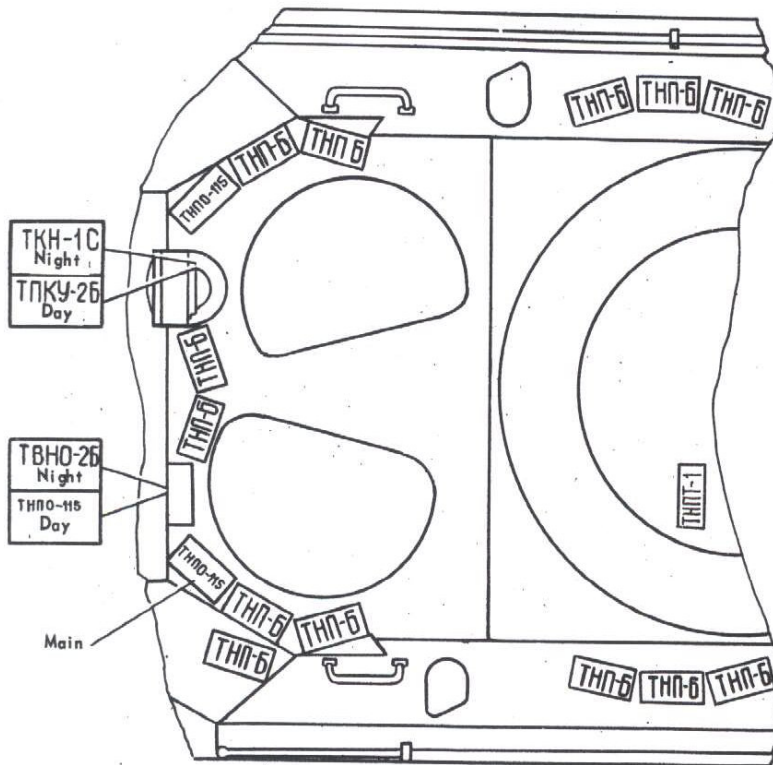
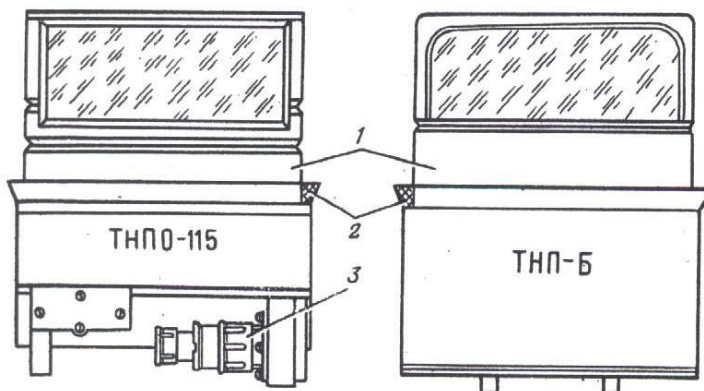
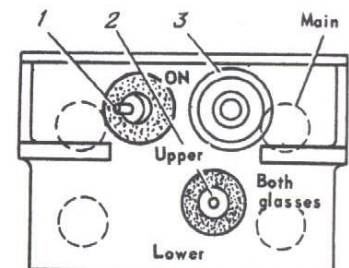
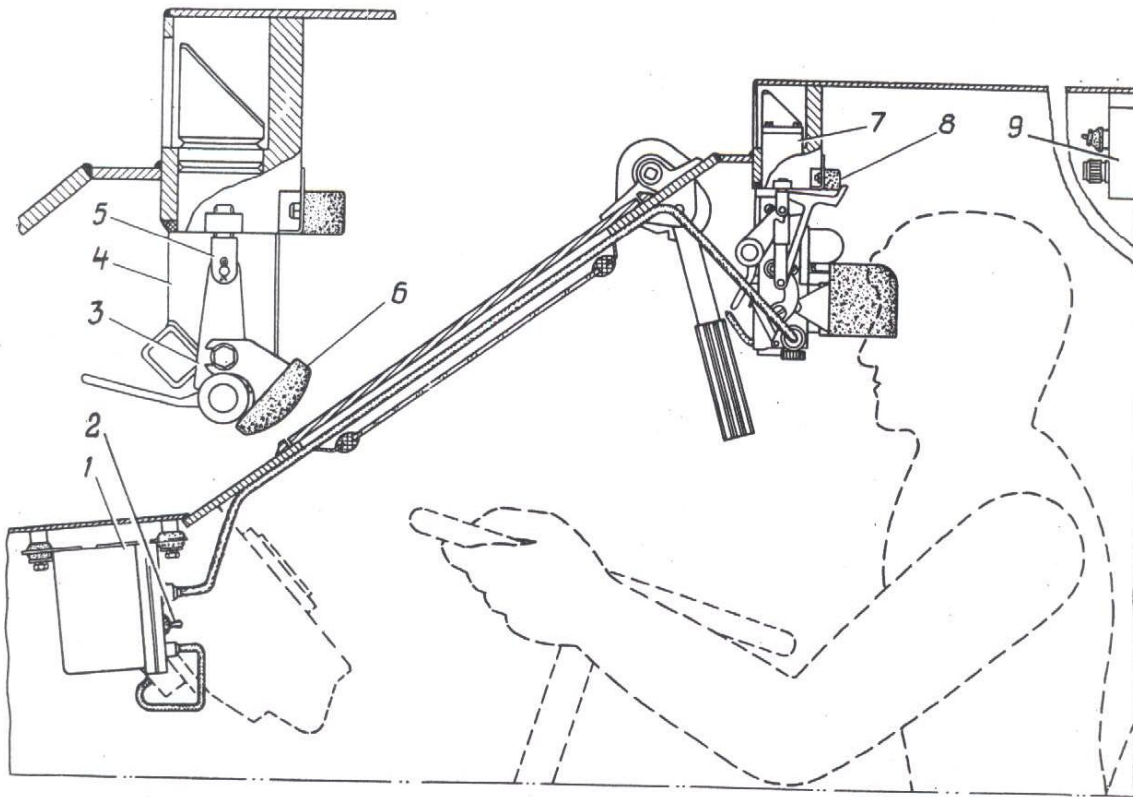

FIG. 96 ARRANGEMENT OF VISION DEVICES
FIG. 98. VISION DEVICES THPO-115 AND THP-B
FIG. 99. GLASS TEMPERATURE REGULATOR PTC-27-3A
FIG. 102. INSTALLATION OF DRIVER'S VISION DEVICES
To observe the road and terrain, the vehicle is equipped with special devices (Fig. 96) for the commander, the driver and the crew.
Depending on the combat situation, the commander in the day-time observes the road and terrain through vision devices type TPKY-2B, type THP-5 and type THPO-115, or through the windshield. To observe the road and terrain at night, the commander makes use of night vision device, type TKH-1C. Vision devices TPKY-2B and TKH-1C, depending on the time of the day, are mounted alternately in one and the same shield located in the front armour plate in front of the commander (Figs 96 and 106). Vision
Vision devices THPO-115 and THP-B (Fig. 98) are mounted in special seats and can be easily removed. Tightness of these devices is ensured by special rubber gasket 2 which is trapezoidal in section. In case tightness is lost, compress the gasket. For this purpose, remove the device and disconnect clamp 3 (Fig. 102) from yokes 5, then screw in the yokes through the required distance, connect clamp 3 with yokes 5 and reinstall the device.
by weather. The heating system is cut in for all the three devices simultaneously by means of the switch located on glass temperature regulator PTC-27-3A which is secured on a special bracket behind the driver's hatch (see Fig. 102). In addition to main switch 1 (Fig. 99), glass temperature regulator PTC-27-3A has change-over switch 2. The latter is used to apply the heating system to the upper prisms of the device, to the lower prisms, or to both.
When connecting the bundle of wires to the temperature regulator (if connectors have been detached; it is necessary to pay attention to proper connection of main device THHO-115. It should be joined to a connector marked MAIN (ВЕДУЩИЙ) (see Figs 96 and 99). Six wires of main device THHO-115 and three wires of two other devices THHO-115 each are attached to the connectors intended for coupling devices THHO-115. Check the devices for proper connection in the operation. Improper connection will result in failure of switching the devices heating (pilot lamp 3 (see Fig. 99) does not glow).
The driver carries out observation in the day-time through devices THH-B, THHO-115 or through the windshield depending on the combat situation, and at night through night vision device TBHO-2B installed in the seat of vision device THHO-115 in front of the driver (Figs 96 and 102). The driver's vision devices TBHO-2B and THHO-115 are stowed alternately in one and the same box whichever is not used. The box is kept in its authorized place in the bay between the front left-side wheel and the auxiliary wheel.
Before mounting night vision device TBHO-2E in place, remove pad 6 (Fig. 102) from clamp 3 upon giving the pad bolts several turns back. This done, disconnect the plug connector and pull vision device THHO-115 out of its seat. Put pad 6 and vision device THHO-115 into the stowage box of vision device TBHO-2E.
- (a) set power pack switch 2 (Fig. 102) on the ON position;